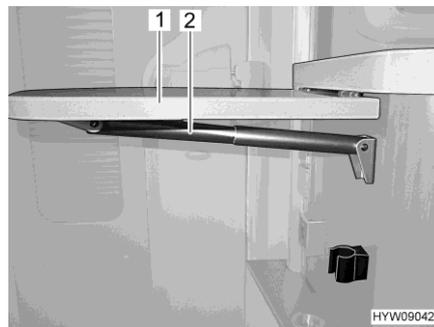

Fig. 57 Folding worktop
- Hold the folding worktop (Fig. 57,1) from below and pull gently to release it from the lock position.
- Swing up the table top until the fixture of the telescopic holder (Fig. 57,2) engages. Let go of the worktop.